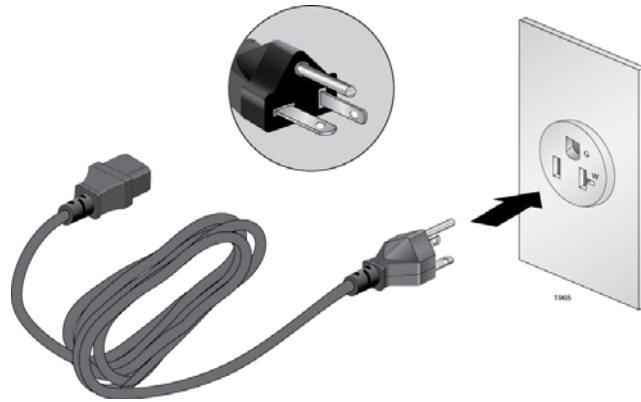

Figure 31. 100 - 125 VAC 125 V NEMA 5-20 Plug and Receptacle
- ☐ The power cords provided with the AT-SBxPWRSYS1, AT-SBxPWRSYS2, and AT-SBxPWRPOE1 Power Supplies for 100-125 VAC installations have 20 Amp, 125 V NEMA 5-20P plugs. The plugs are only compatible with NEMA 5-20R receptacles. See Figure 31 on page 91.